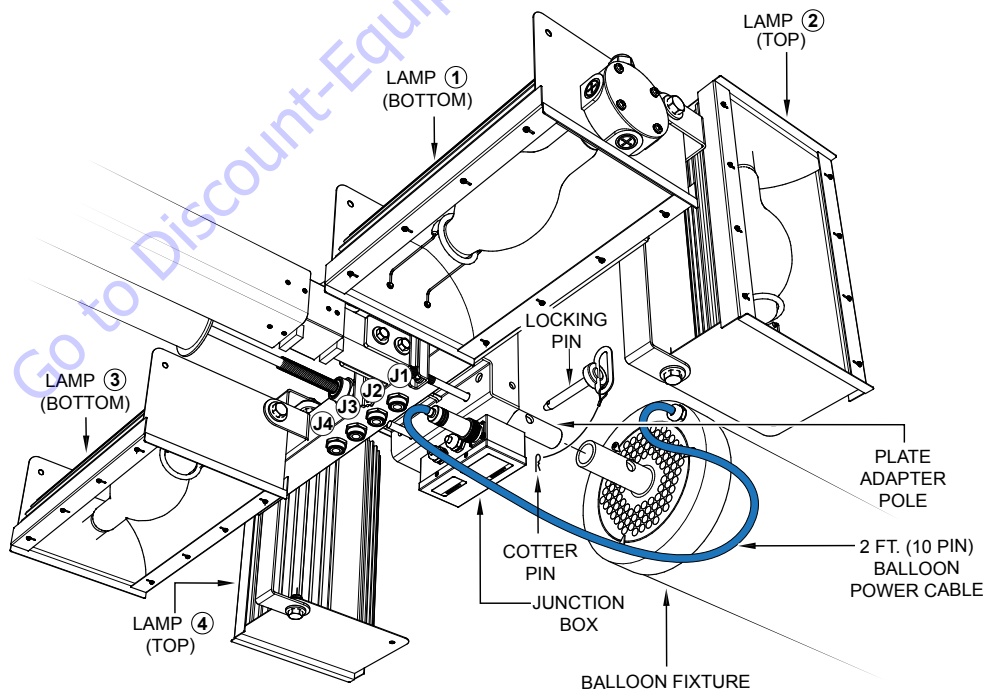

Figure 9. Balloon Power Cable Connection
1. Place the GB2000 lamp fixture onto the lamp adapter plate pole as shown in Figure 9.
1. Connect the balloon power cable (Figure 9) to the 10-pin receptacle on the junction box.